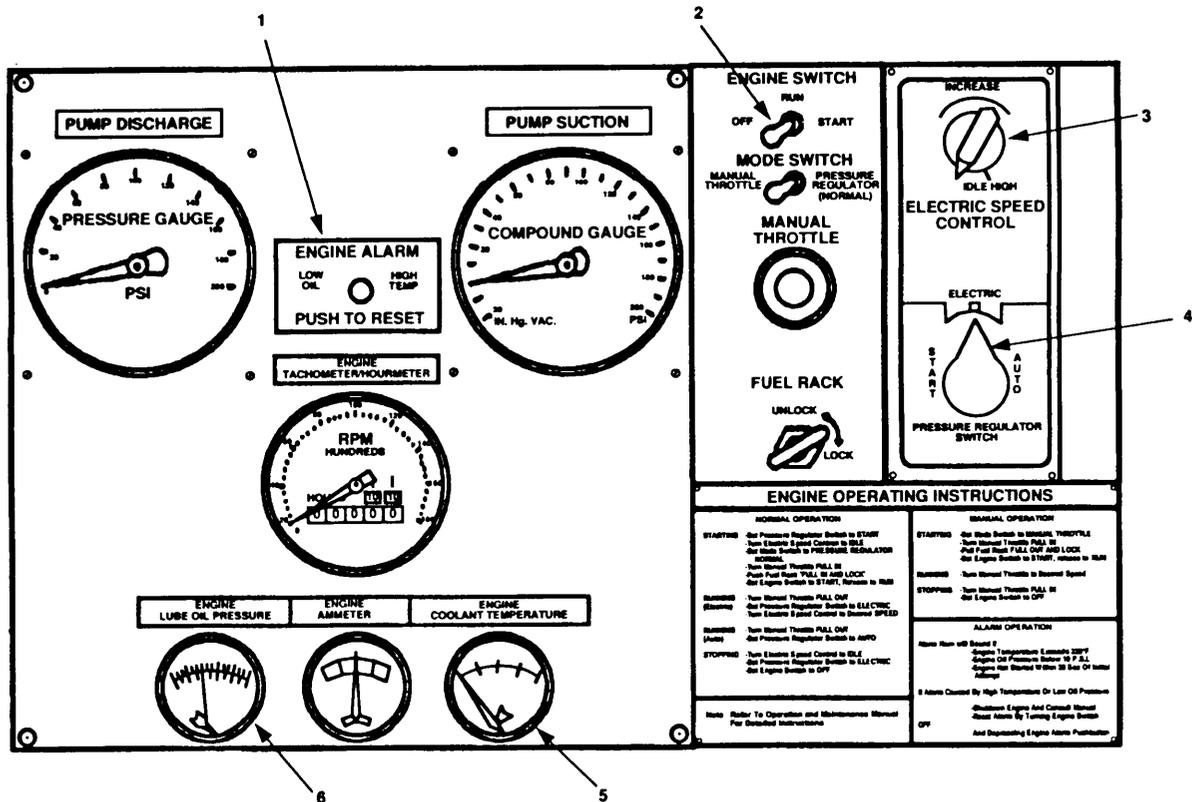

Figure 2-21. Model 609-A Controls for Electric Automatic Operation.
- b. Turn PRESSURE REGULATOR SWITCH (Figure 2-21, 4) clockwise to AUTO position. Engine speed is now automatically controlled by the pressure regulator. The pressure regulator provides 150 psi discharge pressure at suction pressures of 20 to 120 psi.